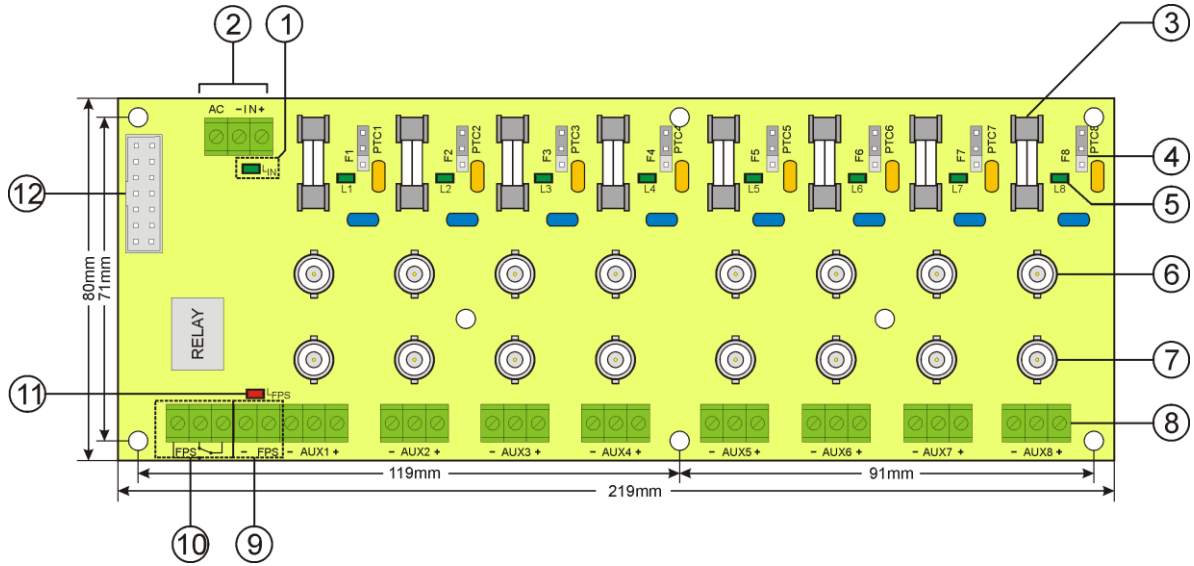

Figure 2. Components arrangement.
Component No. [Figure 2]	Description
Additionally, the PSU is fitted with LED lights inside the enclosure – see Figure 2 and 3:
- **L_{IN}** green LED (Figure 2, component 1) indicates DC voltage at the BNC module input. During normal operation (DC supply) the LED is permanently illuminated. No DC no DC voltage at the module input is indicated by turning off the **L_{IN}** LED.
- **L_{FPS}** red LED (Figure 2, component 11) is not illuminated during normal operation (no failure). In case of activation of the short circuit / overload protection at any output, the LED is permanently illuminated.
- **L1 ÷ L8** green LEDs (Figure 2, component 5) indicate voltage at the individual outputs of the module (L1 for AUX 1 etc.). Activation of the short circuit / overload protection of a given circuit is indicated by turning off one of the Lx LEDs.